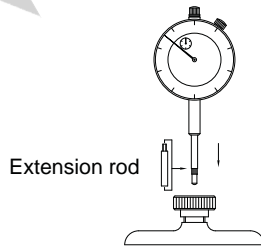

Fig.1
2. Select extension rod according to the measured size, and select the tip according to the shape of workpiece. Ball tip is used to measure the plane surface. Pointed tip is used to measure concave or complicated surface. Insert indicator into hole of base plane, tighten locking screw(Fig.1).